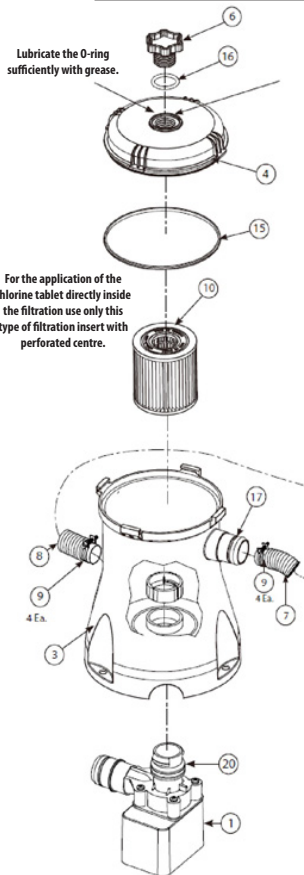

Fig. 1
3. Take the inlet and discharge hoses (7, 8) and the four hose couplings (9) from the bag with the accessories. Loosen the hose clamps and insert them on both ends of each hose. Fit one hose on the filtration case inlet and one hose to its discharge. Tighten both hose clamps (9) on the filtration case. See **fig. 1, 3 and 4**.
4. Install the strainer with grommet (11, 12) to the pool wall outlet. Fit the inlet hose from the filtration case to the pool grommet. Tighten the hose coupling. See **fig. 1, 3 and 4**.
5. Install the baffle with grommet (11, 13) to the pool wall outlet. Fit the inlet hose of the filtration case to the inlet pool grommet. Tighten the hose coupling. Start filling the pool. See **fig. 1, 3 and 4**.